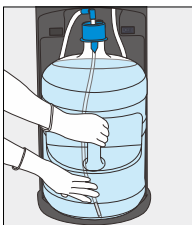
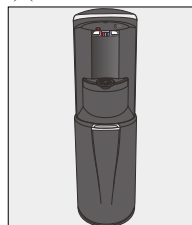

Figure 19
Figure 21
8. Slide bottle into cabinet and close the door (Figure 19 to Figure 21) (slide door downwards to close)